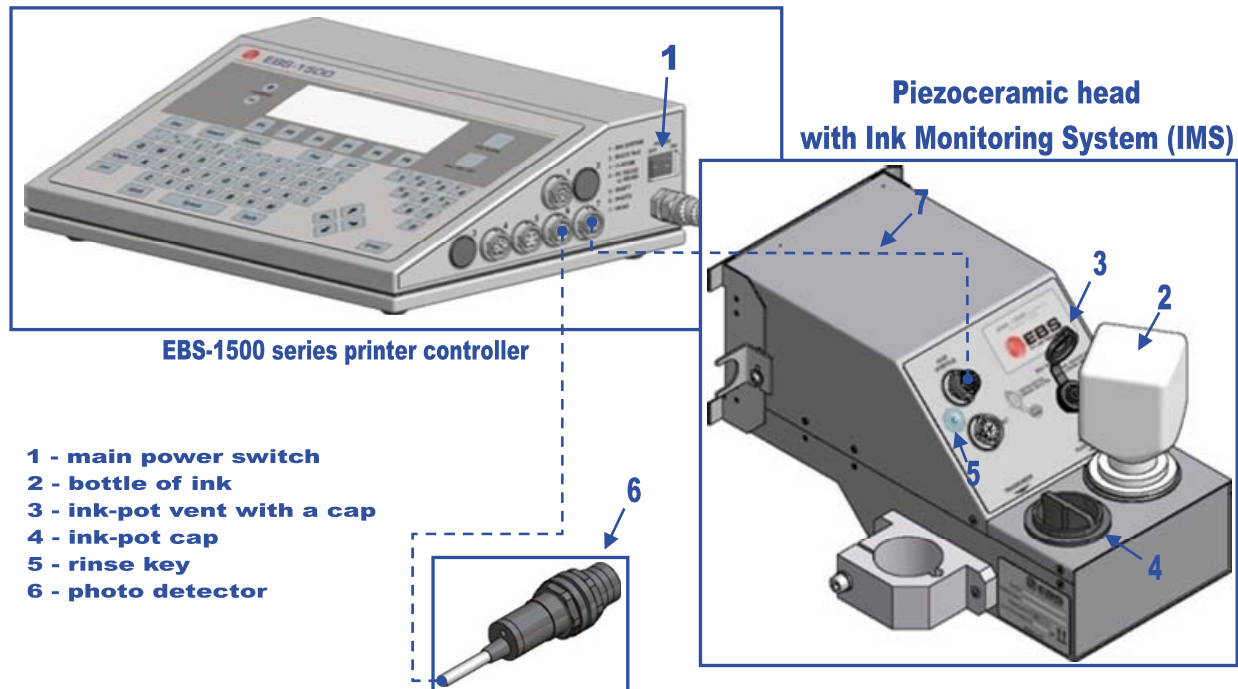

Fig. 2.1
Major components of the printer with a single piezoceramic head are shown in **Fig. 2.1**.
In addition, the printing system may contain many other subassemblies such as a shaft-encoder, assembly jigs and tubes, cables (e.g. a cable to connect the printer controller with the head – see item 7 in **Fig. 2.1**), an additional external signalling device and many others. For more details refer to section *Installation of the Printer* in *The EBS-1500 Printer User's Manual*.
The **ON/OFF** power switch is situated on the right side wall of the unit next to the feeder cable. It isolates both power leads from the mains (see item 1 in Fig. 2.1).